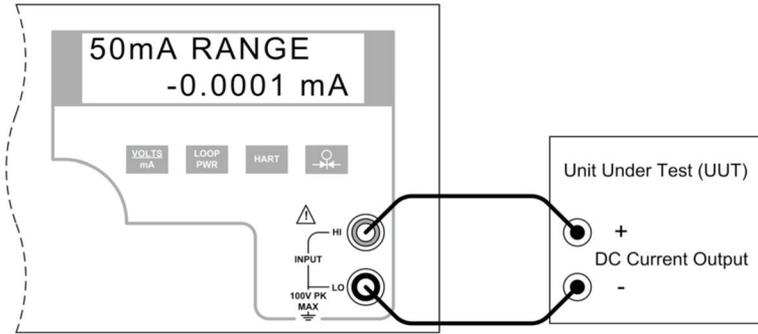

Figure 18 - Isolated DC Current Input Connection
- c) Connect the unit under test to the isolated voltage/current input terminals of the PD9500 as shown in figure 18.